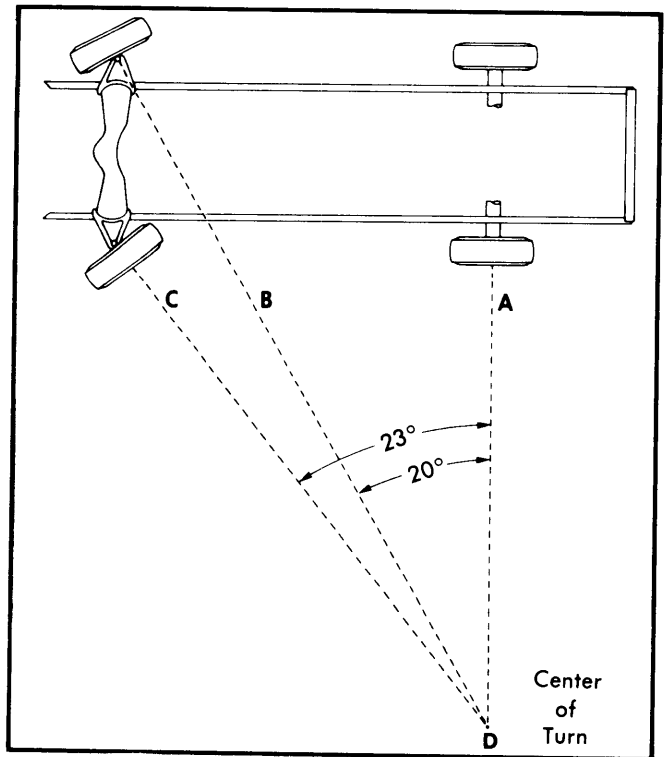

Fig. 6 Wheel Toe-Out on Turns
- 1) Toe-out is a check for bent or damaged parts, and not a service adjustment. With caster, camber, and toe-in properly adjusted, check toe-out with weight of car on wheels. See Fig. 6.